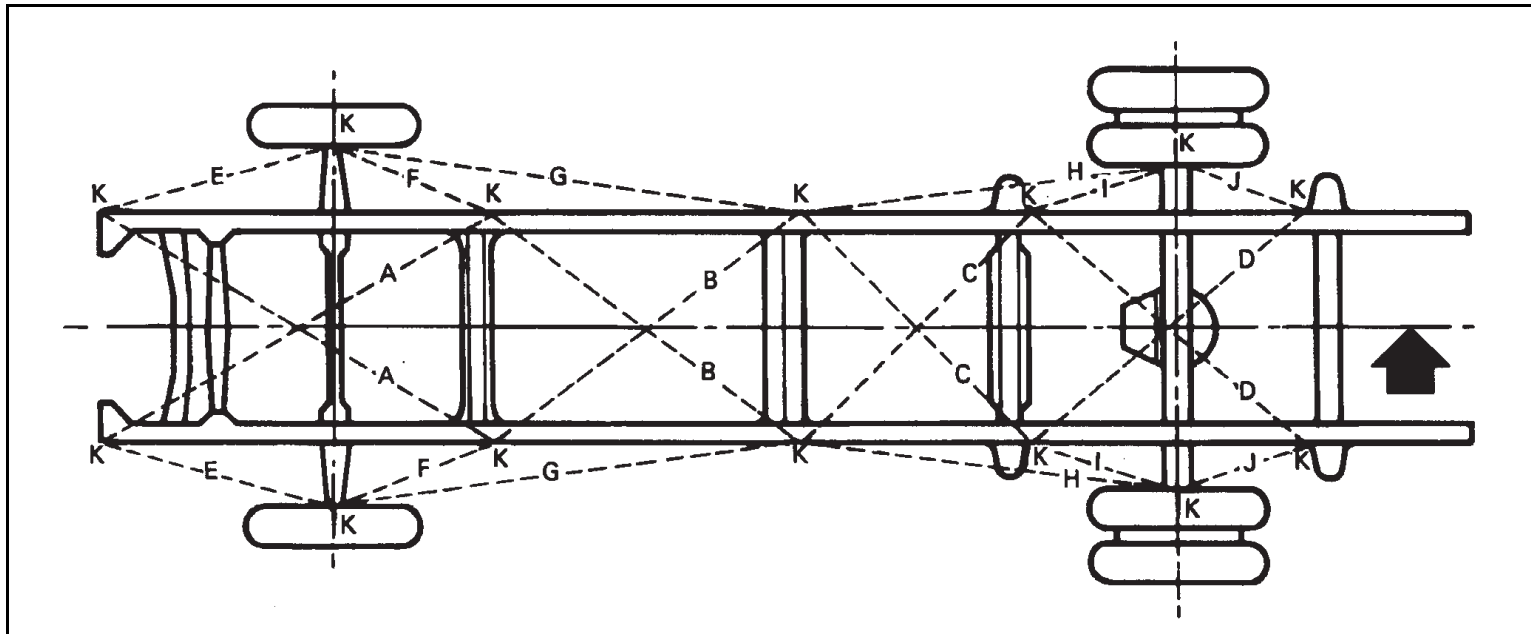

Figure 2.1 Centerline of Chassis
2. Tack or tape pieces of paper to the floor directly under each point of measurement on the chassis as indicated by the letter "K" in Figure 2.1.